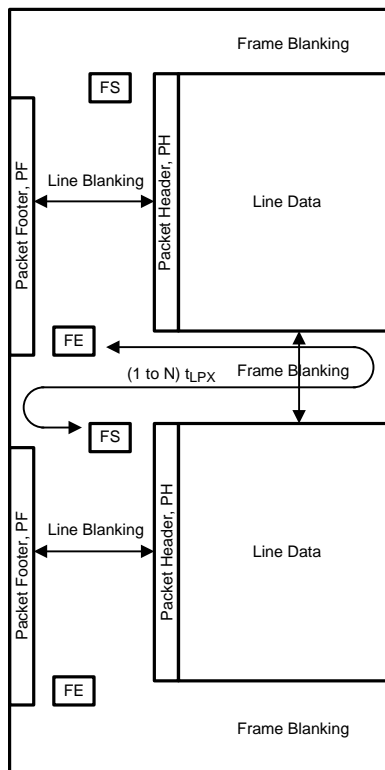

Figure 30. CSI-2 General Frame Format
The DS90UB940-Q1 (in default mode) takes RGB 24-bpp data bits defined in the serializer and directly maps to the pixel color space in the data frame. The DS90UB940-Q1 follows the general frame format as described per the CSI-2 standard (Figure 30). Upon the end of the vertical sync pulse (VS), the DS90UB940-Q1 generates the Frame End and Frame Start synchronization packets within the vertical blanking period. The timing of the Frame Start will not reflect the timing of the VS signal.